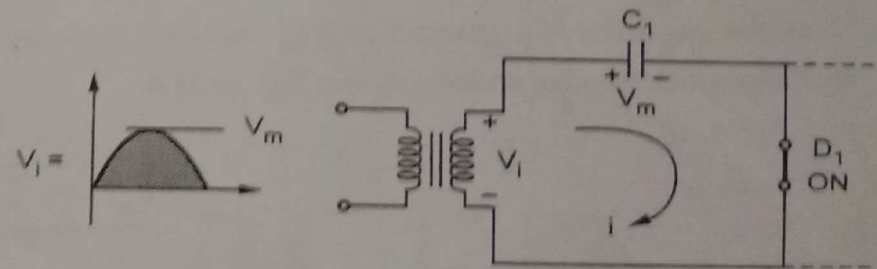

Fig. Q.53.2 C_1 charges to V_m through diode D_1
- The capacitor C_1 charges to V_m through the forward biased diode D_1 with the polarities as shown in the Fig. Q.53.2.